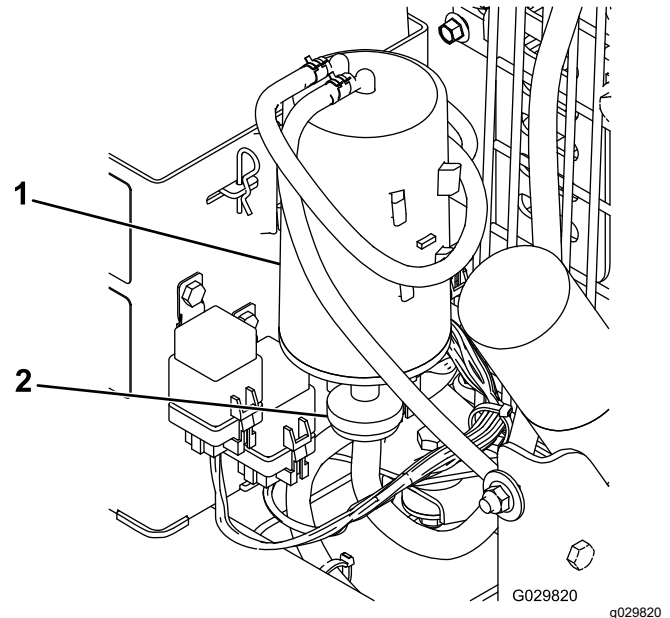

Figure 14
2. Remove and discard the carbon canister air filter (Figure 14).